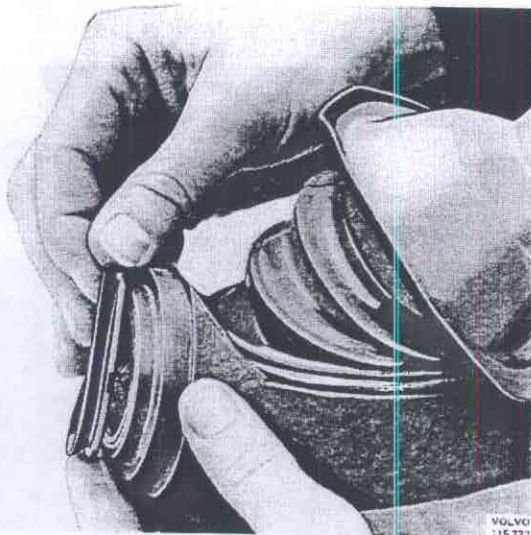

Fig. 46-104. Fitting the seal
7. Replace the upper seal on the wheel carrier housing, Fig. 46-104, and the seal on the support Fig. 46-105. Fit the support on the wheel carrier housing.